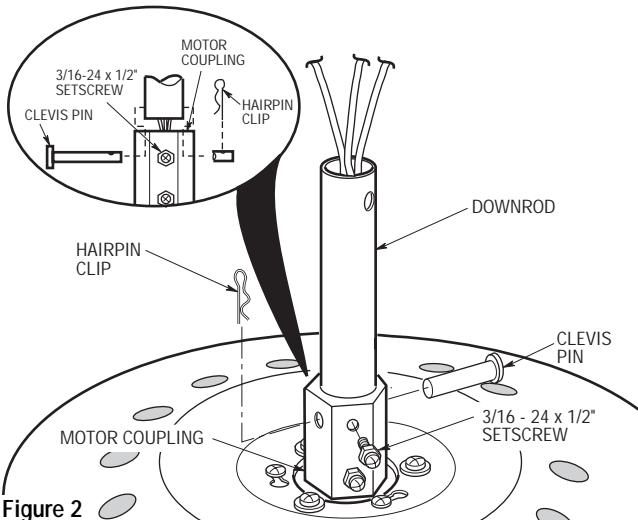

Figure 2
2. Separate, untwist and unkink the three 80" motor leads. Route the motor lead wires through the downrod. Align the clevis pin holes in the downrod with the holes in the motor coupling. Install the clevis pin and secure with the hairpin clip (Figure 2). The clevis pin must go through the holes in the motor coupling and the holes in the downrod. Be sure to push the straight leg of the hairpin clip through the hole near the end of the clevis pin until the curved portion of the hairpin clip snaps around the clevis pin. The hairpin clip must be properly installed to prevent the clevis pin from working loose. Pull on the downrod to make sure the clevis pin is properly installed.
It is critical that the clevis pin in the motor coupling is properly installed and the setscrew securely tightened. Failure to verify that the pin and setscrew are properly installed (as shown in Figure 2) could result in the fan falling.
3. Back off the jamnut until it rests loosely against the setscrew head (supplied). Install the setscrew in the motor coupling (Figure 2) and tighten securely while pulling up on the downrod. Using a 5/16-inch open end wrench or pliers, tighten the jamnut securely against the motor coupling.